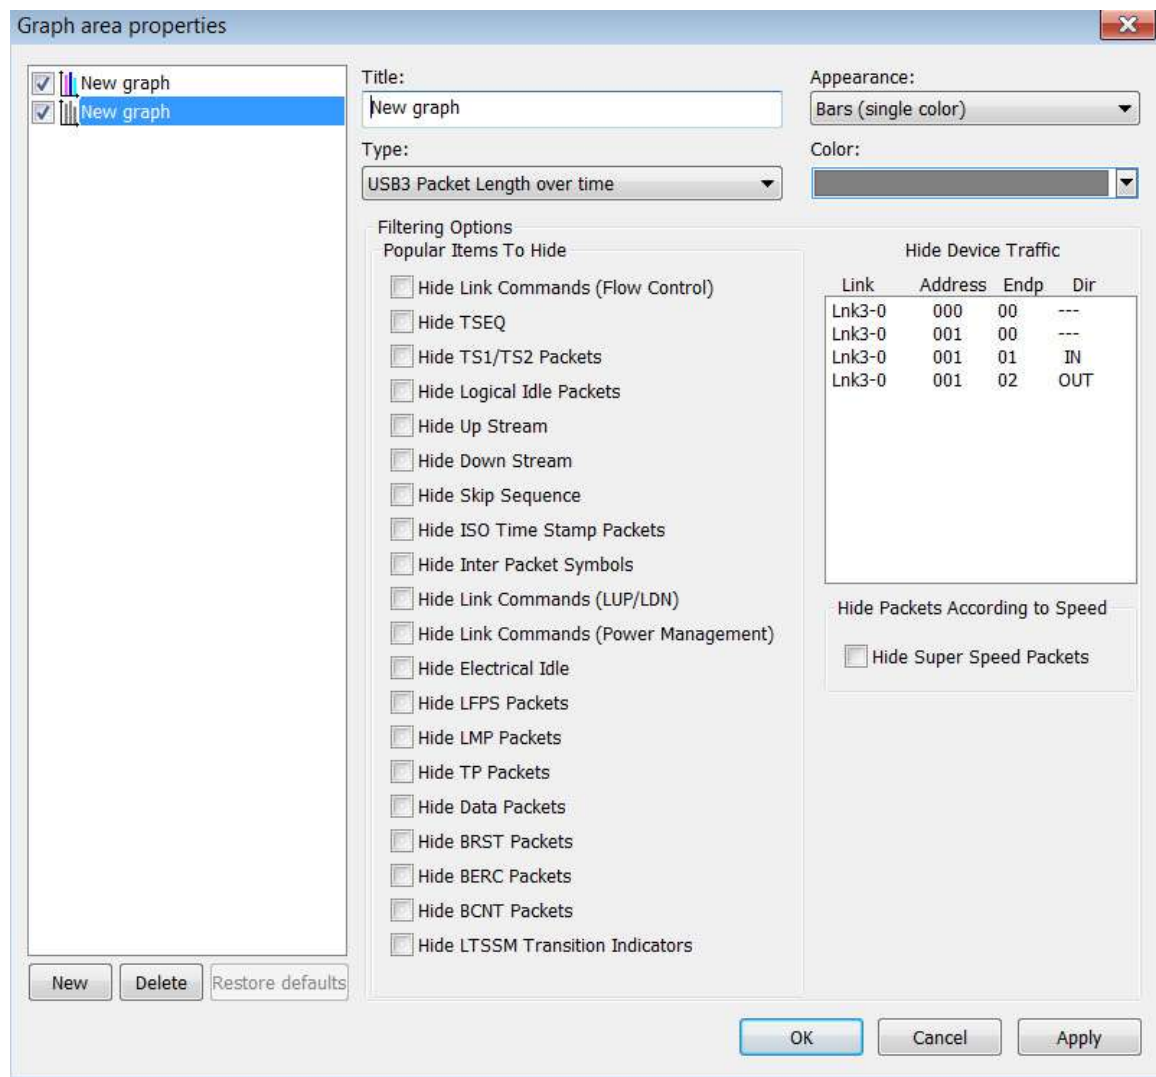

Figure 10.31: Graph Area Properties Dialog
1. In the Graph Area properties dialog box (see Figure 10.31 on page 589), select the options to display in the graph display, then click **OK**.
2. In the Graph Area properties dialog box (see Figure 10.31 on page 589), select the options to display in the graph.